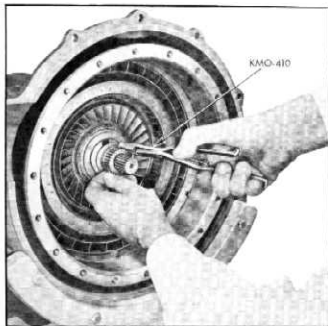

Fig. 67—Removing Converter Retaining Ring and Washer
7. Remove the converter retaining ring and washer (fig. 67).